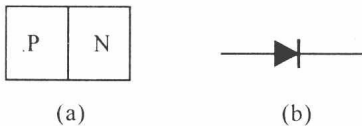

Figure 3.1 Diode
A semiconductor diode is a two-terminal device containing a single P-N junction. It is the simplest possible semiconductor device. The P-type material is called the anode, while the N-type material is called the cathode. ^①(Figure 3.1)